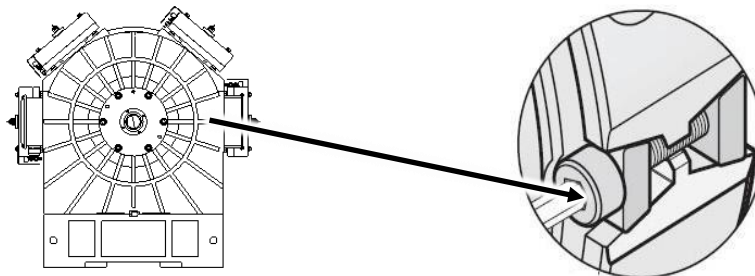

Figure 19
1. Loosen the encoder locking screw M2.5, as shown in Figure 19 with hex wrench (2 mm) through the encoder cover hole. The screw does not need to be removed.